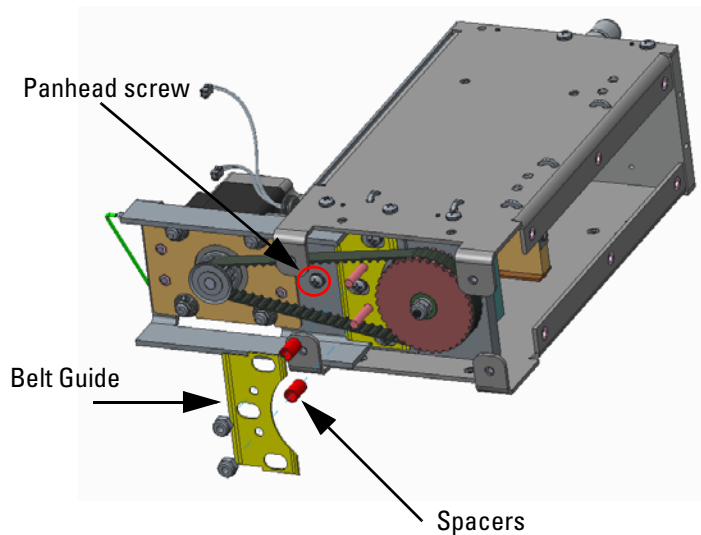

Figure 7-8 Pump module
2. Lay the module on its side on a clean workbench, with the bottom oriented toward you (Figure 7-8).
4. Remove the belt guide and two spacers (Figure 7-8)